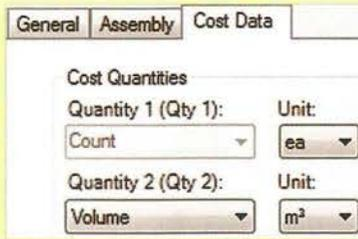

Fig 46: Quantity 2
- b. In the Cost Data tab, set the Quantity 2 as 'Volume' (Figure 46).